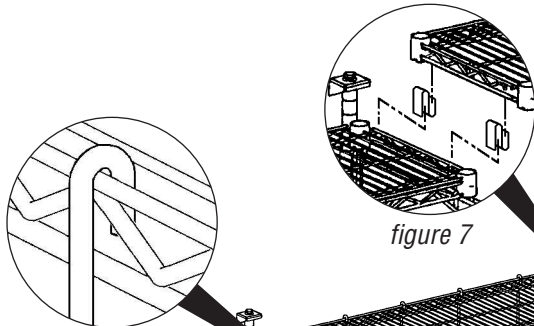

figure 7
- Hook the rods where desired onto the outside of the top shelf (see *figure 7*).
- Hook two S-hooks onto the outside of the top shelf (see *figure 7*).
- Lay adjoining shelf inside S-hooks (see *figure 7*).